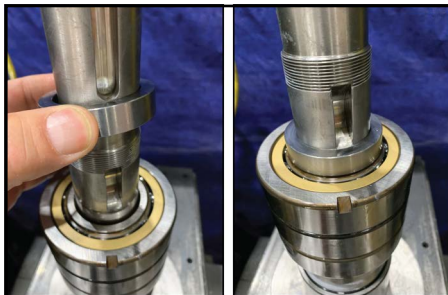

Figure 299 -Place gear spacer on drive shaft
29. Drive shaft only: Place the gear spacer onto the shaft until it contacts the four point angular contact bearing already installed as shown in Figure 299.